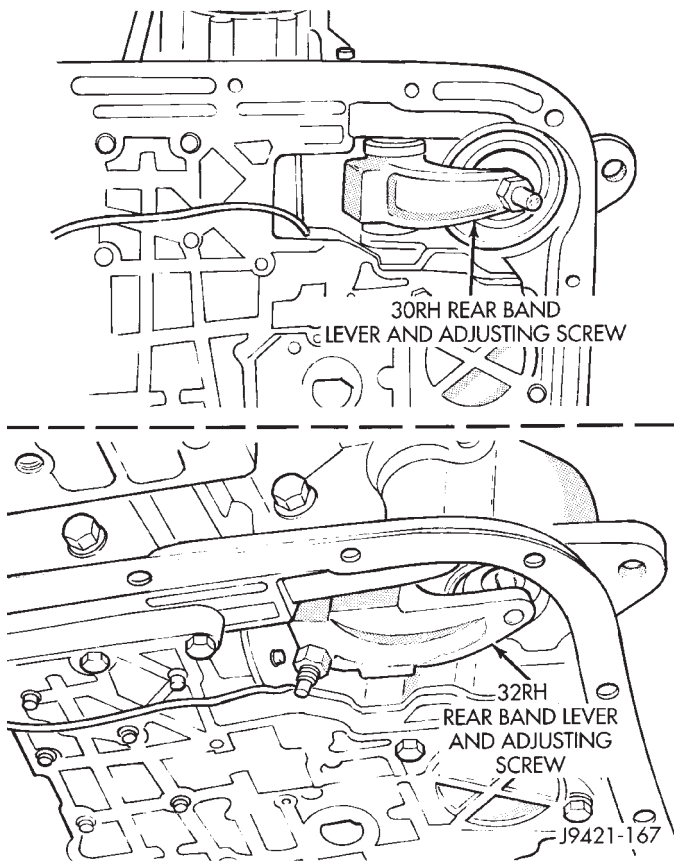

Fig. 8 Rear Band Lever And Adjusting Screw Location
(1) Raise vehicle.
(2) Remove transmission oil pan and drain fluid.
(3) Loosen band adjusting screw locknut 5-6 turns. Be sure adjusting screw turns freely in lever.
(4) Tighten adjusting screw as follows: On 32Rh transmission, tighten screw to 8 N·m (72 in. lbs.) torque. On 30RH transmission, tighten adjusting screw to 5 N·m (41 in. lbs.) torque (Fig. 8).
(5) Back off rear band adjusting screw as follows:
(6) Hold adjusting screw in place and tighten locknut to 34 N·m (25 ft. lbs.) torque.
(7) Position new gasket on oil pan and install pan on transmission. Tighten pan bolts to 17 N·m (150 in. lbs.) torque.
(8) Lower vehicle and refill transmission with recommended fluid.